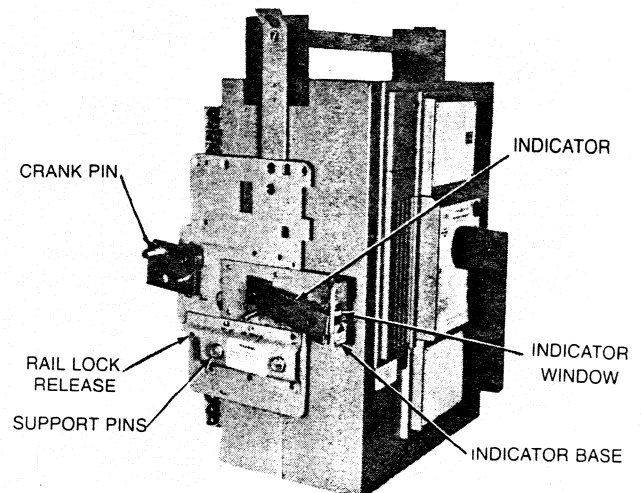

FIGURE 38. CARRIAGE ASSEMBLY—LEFT SIDE
2. Pull out red cam gate levers at left and right sides until they are latched. Grasp breaker, as shown in Fig. 38, and pull out to disengaged position. Cam gates will close automatically.